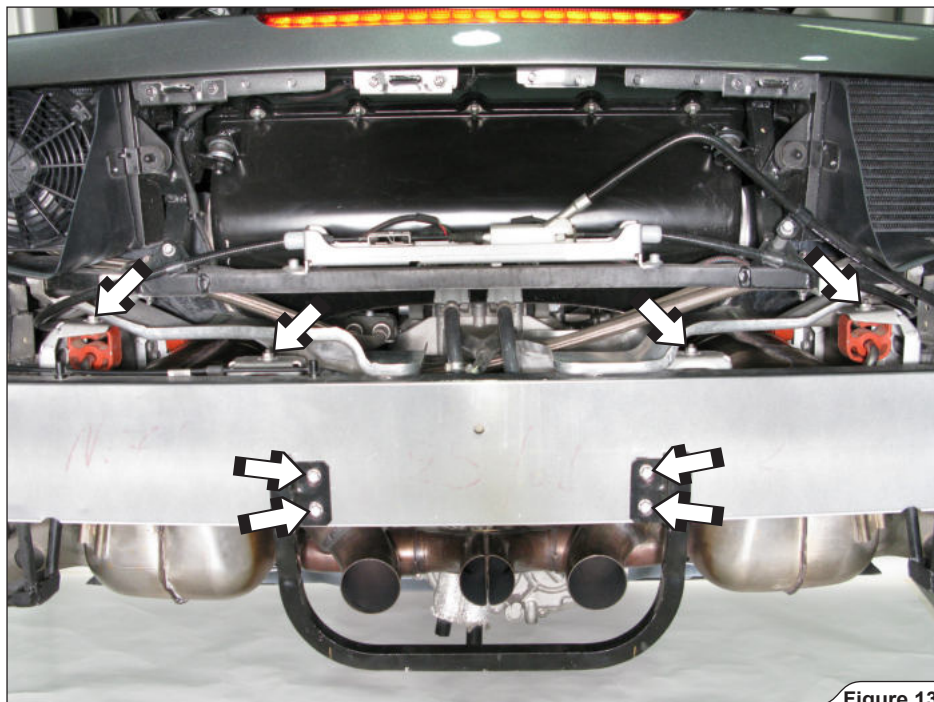

Figure 13
12. **For Slip-On and optional Link Pipes:** remove the diffuser bracket and unscrew the mufflers' rear rubber mountings' nuts. Carefully remove the mufflers off the vehicle (**Figure 13**).